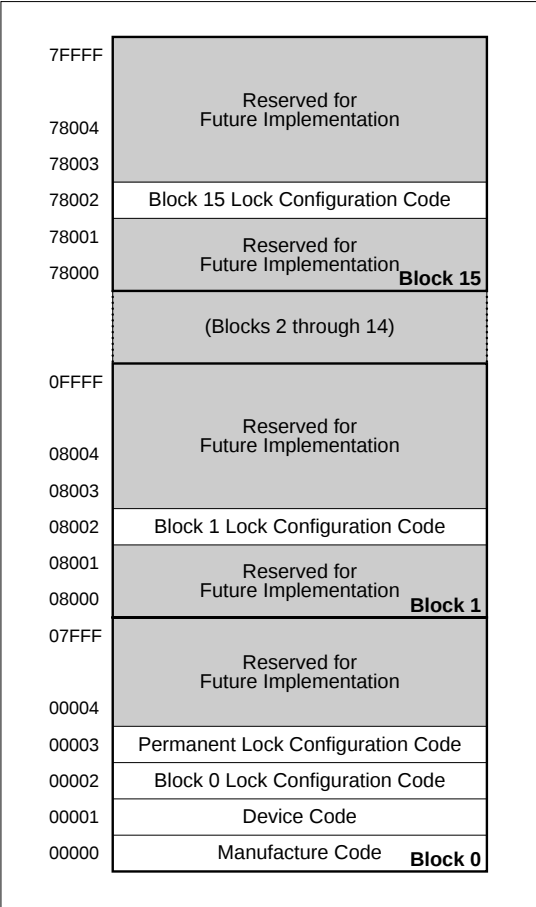

Fig. 2 Device Identifier Code Memory Map
The read identifier codes operation outputs the manufacture code, device code, block lock configuration codes for each block, and the permanent lock configuration code (see Fig. 2). Using the manufacture and device codes, the system CPU can automatically match the device with its proper algorithms. The block lock and permanent lock configuration codes identify locked and unlocked blocks and permanent lock-bit setting.
IA = Identifier code address : see **Fig. 2**.
The identifier code operation is initiated by writing the Read Identifier Codes command. Following the command write, read cycles from addresses shown in **Fig. 2** retrieve the manufacture, device, block lock configuration and permanent lock configuration codes (see **Table 4** for identifier code values). To terminate the operation, write another valid command. Like the Read Array command, the Read Identifier Codes command functions independently of the V_{PP} voltage and RP# can be V_{IH} or V_{HH}. Following the Read Identifier Codes command, the following information can be read :
1. X selects the specific block lock configuration code to be read. See **Fig. 2** for the device identifier code memory map.